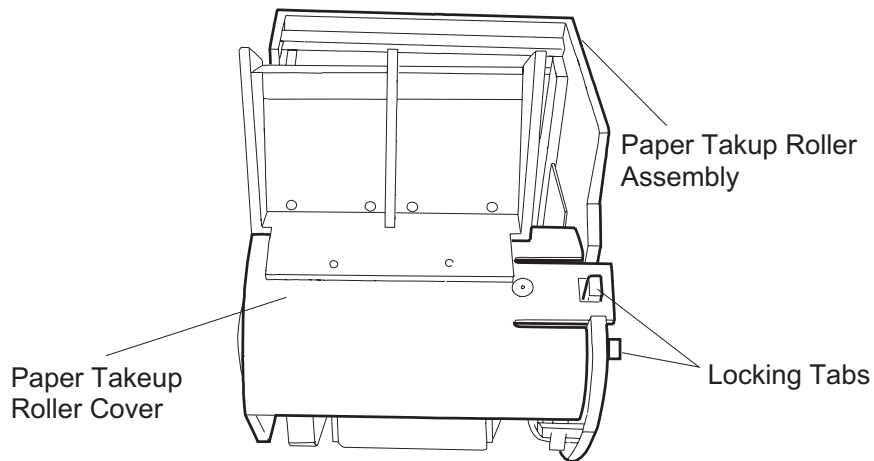

Figure 3-26. LD Roller Cover Removal
7. Release 2 hooks securing the LD roller cover to the paper loading assembly using the tweezers. Then remove the LD roller cover. (See Figure 3-26.)